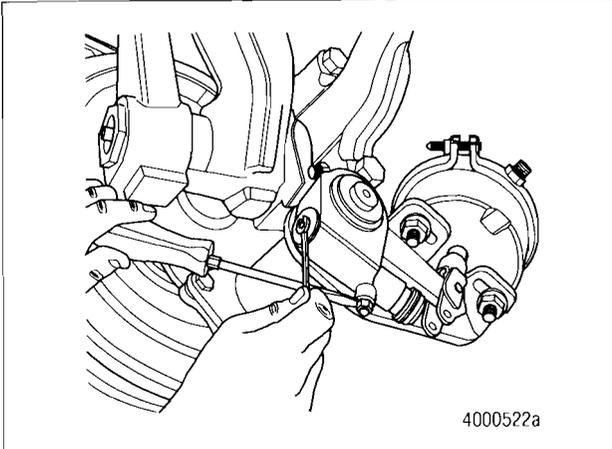

Figure 5
4. For drum brake applications, back off the brake at the slack adjuster until the brake shoes retract and the drum clears the linings. Figure 5. The wheel studs on disc brake applications with the suspect wheel stud should be serviceable without adjusting the brakes or loosening the rotor.